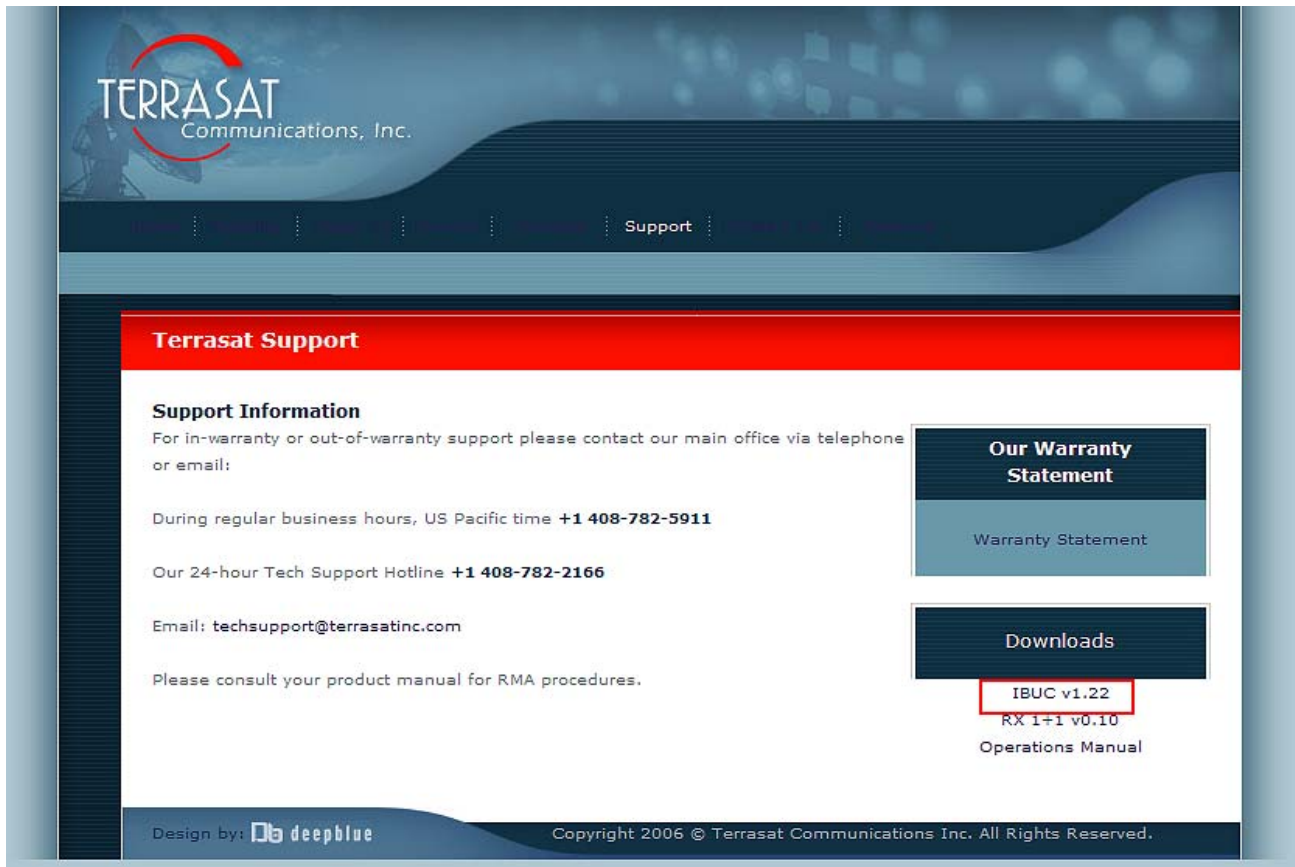

Figure 5.2 Location of Downloads on Terrasat Website
3. Double-click the IBUC v1.XX file name, as shown in Figure 5.2.
Note: In Figure 5.2, the version shown is v1.22; your version number may vary.